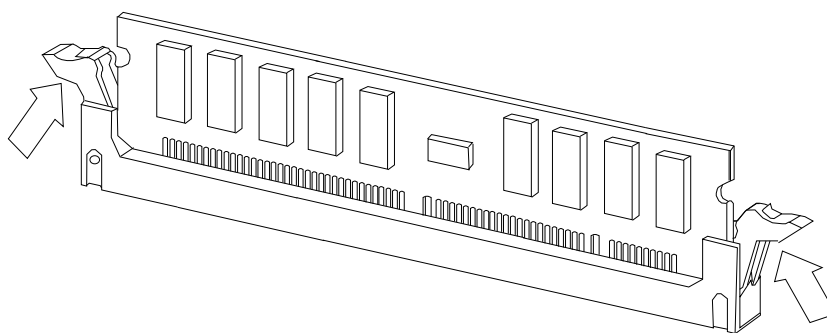

Figure D-11: Locking the DSIMMs in Place
6. To lock the DSIMM in place, push both ejector levers into the upright position (see Figure D-11).